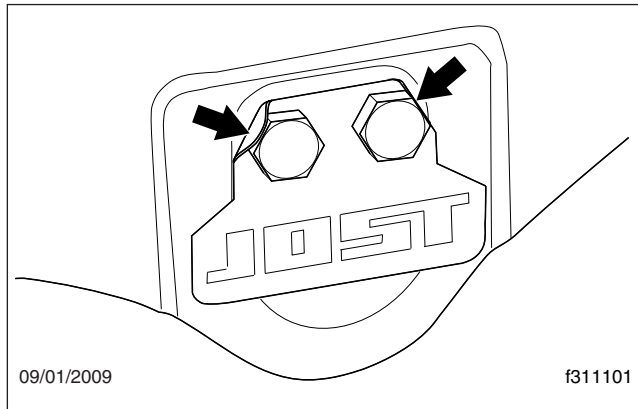

Fig. 5, Bracket Pin Bolt Locking Tabs
4. Inspect the bracket pin bolts. Make sure the locking tabs are properly securing the bolts in place. See **Fig. 5**.
3. Lubricate the fifth wheel prior to opening and closing it. Separate the jaw and wedge with a screwdriver, and grease the full length of their mating surfaces. Lubricate the top and bottom contact surfaces of the jaw and wedge. See Fig. 5. Open and close the fifth wheel several times to further distribute the grease.